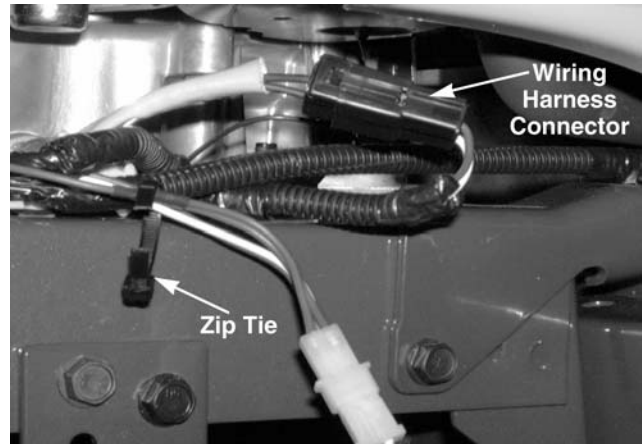

Figure 9-24
8. Carefully disconnect the wiring harness connector from the electric PTO clutch assembly. See Figure 9-24.